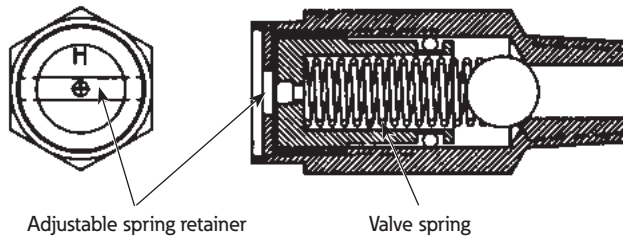

Figure 2. Adjustable control valve
The maximum full turns of the adjustable spring retainer on the B, C, and D time-current curve valves are 3-1/2 - from all the way out to all the way in. See Figure 2. Use a screwdriver and the specified drill bit for each of the time-current curve adjustments.
1. Turn the adjustable spring retainer counterclockwise all the way out. See Figure 2.